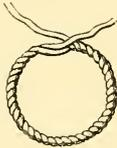

FIG. 271.
**Grommet or Grummet.**—A ring formed of a single strand of rope laid over three times. Used for strops, &c. (Fig. 271.)